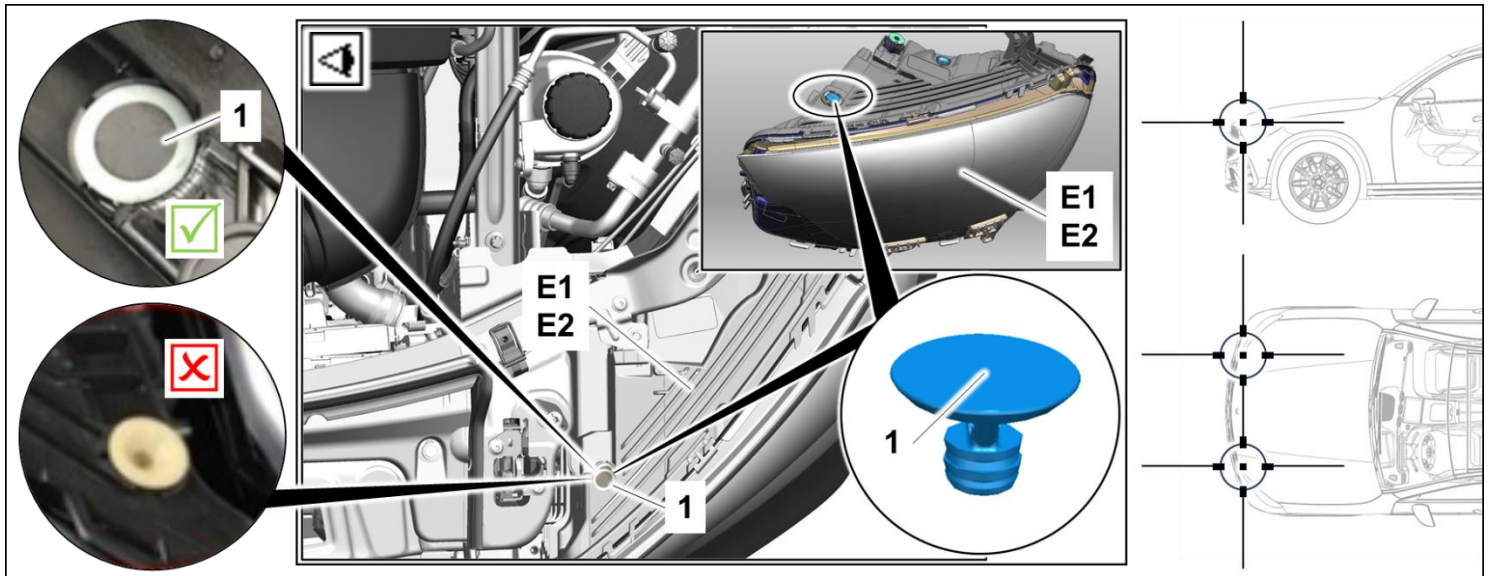

Figure 1 (Shown on driver side of vehicle)
1. Check if cap (Figure 1, 1) is installed in the area shown on the front left & right headlamps (Figure 1, E1 & E2).
- a. Caps (Figure 1, 1) **are** installed: **End measure**.
- b. Caps (Figure 1, 1) **are not** installed: Perform **Work Procedure**.
1. Check adjustment setting of front left & right headlamp unit (Figure 1, E1 & E2), and correct if necessary.
i After adjusting the left and right headlamp settings (Figure 1, E1 & E2), the horizontal adjustment for the low beams must not be changed.
2. Install caps (Figure 1, 1) on the left & right headlamp (Figure 1, E1 & E2).